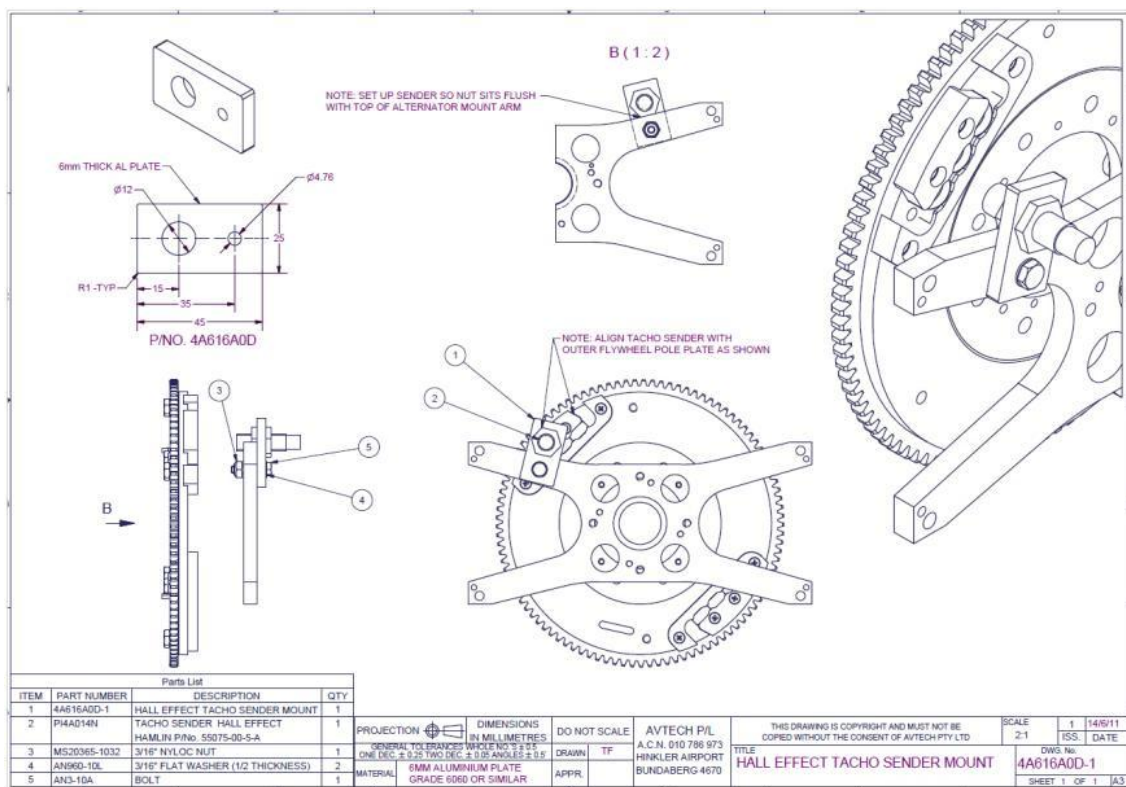

Figure 146 – Hall effect Tacho Sender
- Where the hall-effect type tacho sender is used (Figure 146) it must be installed during final assembly